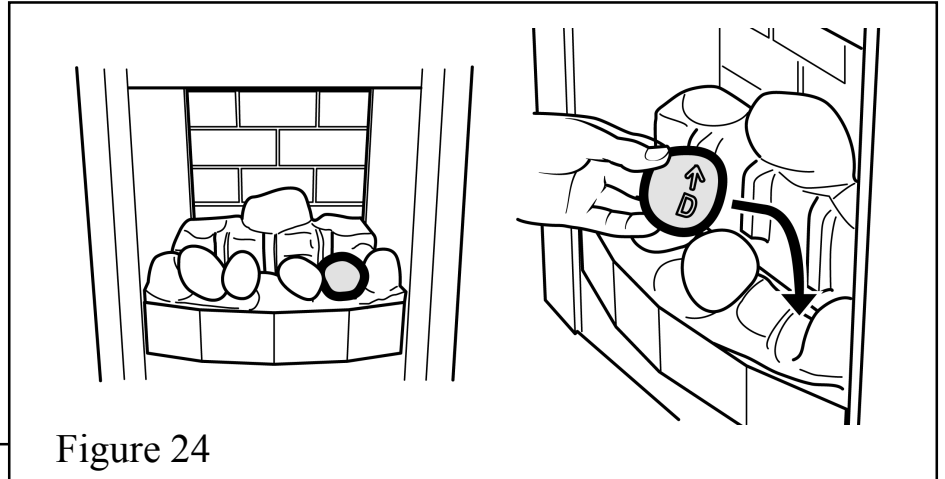

Figure 24
6. Hold pebble 'D' upright with the arrow pointing to the top. Place pebble "D" on top of the base front pebble. It should rest against the moulded pebble to its right. (See figure 24).